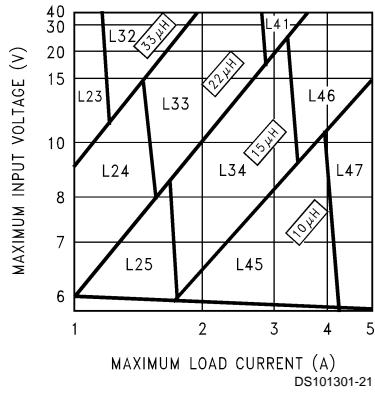
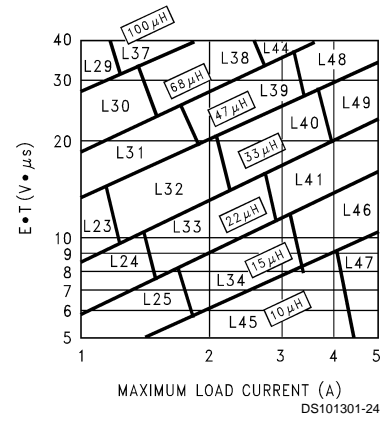

FIGURE 3. LM2677-3.3
FIGURE 6. LM2677-ADJ
**Step 3:** Determine the inductor required by using one of the four nomographs, *Figure 3* through *Figure 6*. Table 1 provides a specific manufacturer and part number for the inductor.
**Step 5:** Determine an input capacitor from Table 4 for fixed output voltage applications. Use Table 2 to find the specific capacitor type. For adjustable output circuits select a capacitor from Table 2 with a sufficient working voltage (WV) rating greater than  $V_{in\ max}$ , and an rms current rating greater than one-half the maximum load current (2 or more capacitors in parallel may be required).
**Step 3:** Use the nomograph for the 3.3V device, *Figure 3*. The intersection of the 16V horizontal line ( $V_{in\ max}$ ) and the 2.5A vertical line ( $I_{load\ max}$ ) indicates that L33, a 22 $\mu$ H inductor, is required.
**Step 3:** To use the nomograph for the adjustable device, *Figure 6*, requires a calculation of the inductor Volt•microsecond constant ( $E \cdot T$  expressed in  $V \cdot \mu S$ ) from the following formula:
Using *Figure 6*, the intersection of  $27V \cdot \mu s$  horizontally and the 2A vertical line ( $I_{load} \max$ ) indicates that L38, a  $68\mu H$  inductor, should be used.
**Important Note:** When using the adjustable device in low voltage applications (less than 3V output), if the nomograph, *Figure 6*, selects an inductance of  $22\mu H$  or less, Table 6 does not provide an output capacitor solution. With these conditions the number of output capacitors required for stable operation becomes impractical. It is recommended to use either a  $33\mu H$  or  $47\mu H$  inductor and the output capacitors from Table 6.